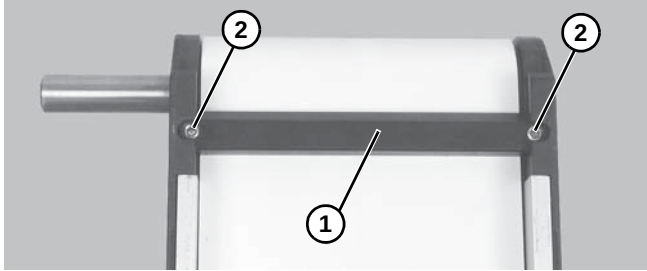

Figure 18
1. If equipped, remove bottom wipers (**Figure 18, item 1**): Remove fastening screws (**Figure 18, item 2**) then remove wiper.